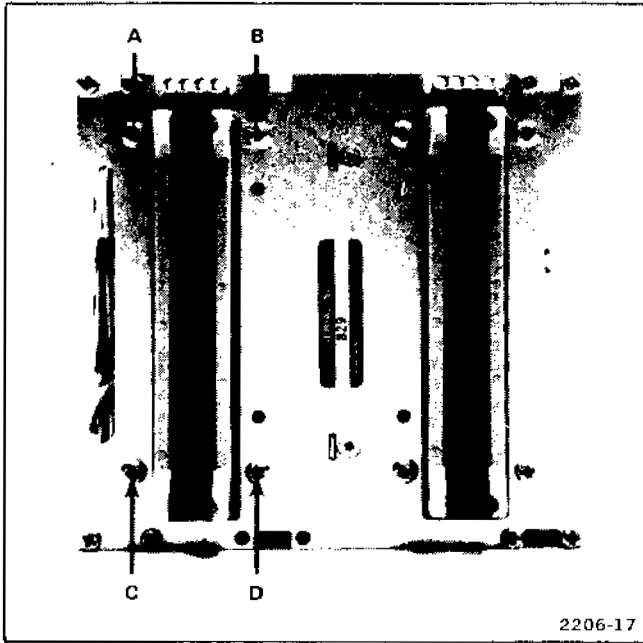

Figure 4-6. Locations of securing screws on the Interface circuit board.
5. Remove 4 screws (A, B, C, and D on Fig. 4-6) securing Interface circuit board and plug-in connector from rear panel.